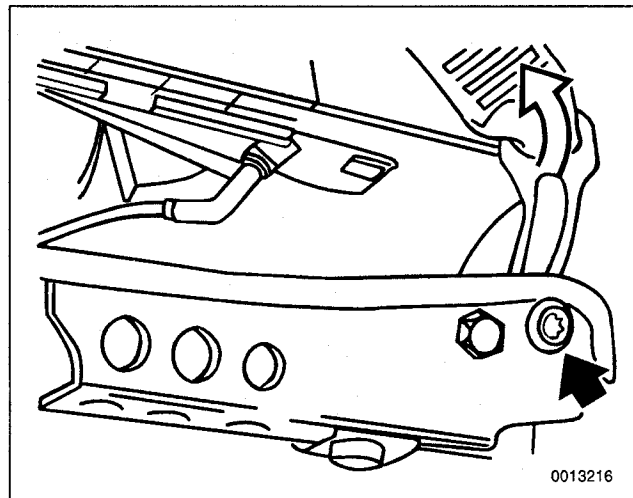

Fig. 3. Seat belt mounting bolt (arrow).
7. On 4-door cars: Unbolt seat belt from seat frame. See Fig. 3.